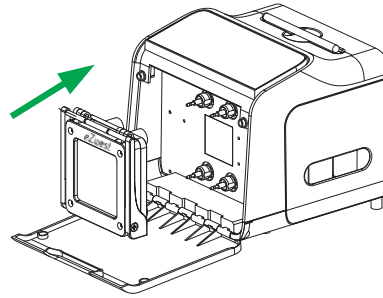

Fig. 7
2. Insert the membrane cassette into the device as shown in Fig. 7. Make sure the pins are pushed all the way in, and the side with the “eZwest” logo is upright.